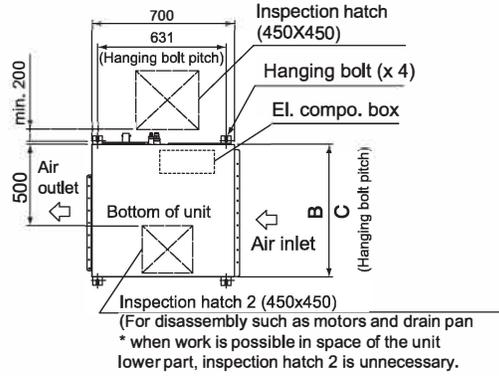

Fig. 2-2
1. Inspection hatch 1 and 2 (450 × 450) for the el. compo. box and a minimum space of 300 mm at bottom of the product. (Refer Fig. 2-2)